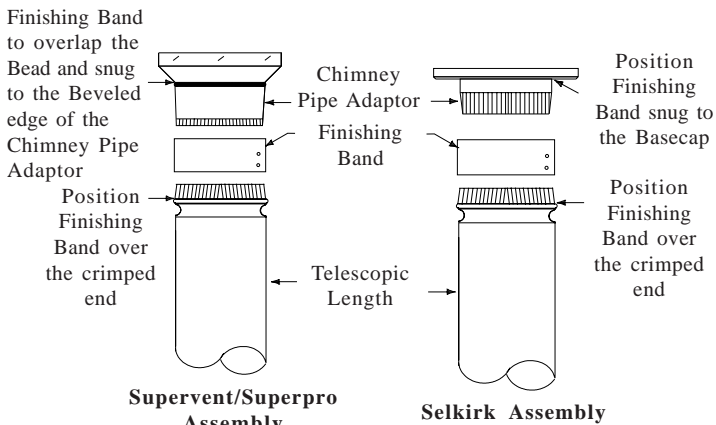

Figure 1A
Step 1. Position the Telescopic Length to the appropriate location over the Chimney Pipe Adaptor. Ensure that its final position will be covered by the Finishing Band which is only 3" wide. The Finishing Band must overlap the crimped end of the DSP and the bead to the beveled edge of the Chimney Pipe Adaptor or to the Basecap (see Figure 1A).